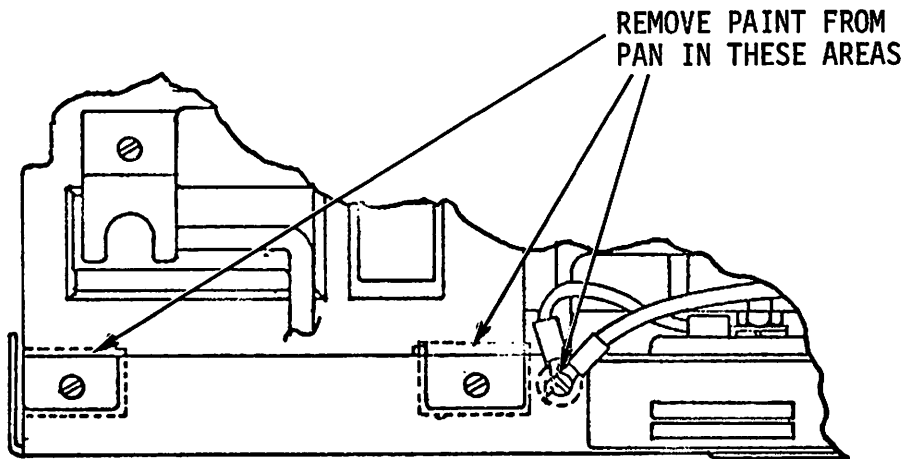

FIGURE 6
- a) Refer to Figure 6. Remove the two screws securing the power supply to the bottom pan.